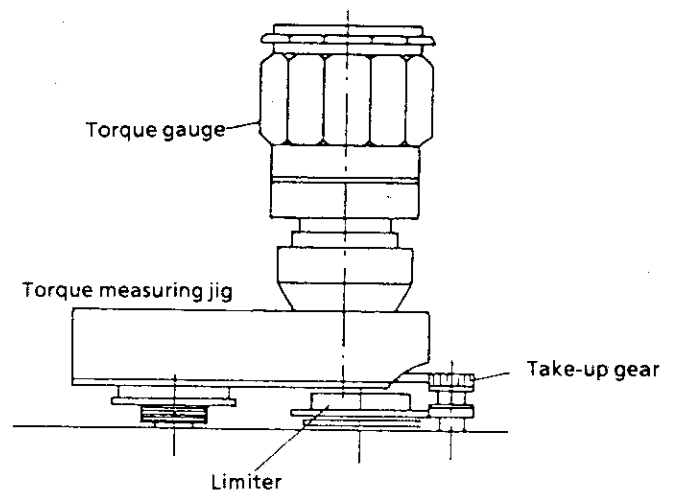

Figure. 2-6
- 4) Set the torque measuring jig to the mechanism. Rotate the torque gauge slowly counterclockwise to measure back tension. (See Fig 2-6)